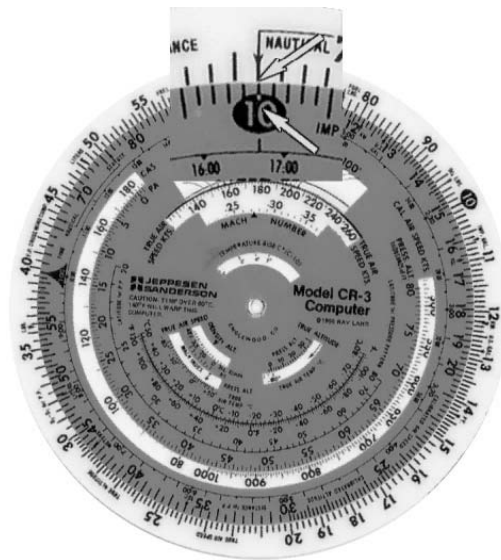

Figure 4.3-28 Fuel Conversion 1
2. Find 66 (6.6#) on the POUNDS (outer) scale and place it over 10 on the GALLONS (inner) scale. (Figure 4.3-28)